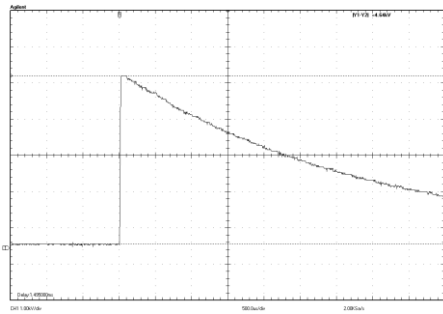

Figure 5. $V_{peak} = 4.65kV$ with 500uH inductor
- a. V_{peak} about 4.64KV, see figure 5 (When inductor shorted for 500uH).